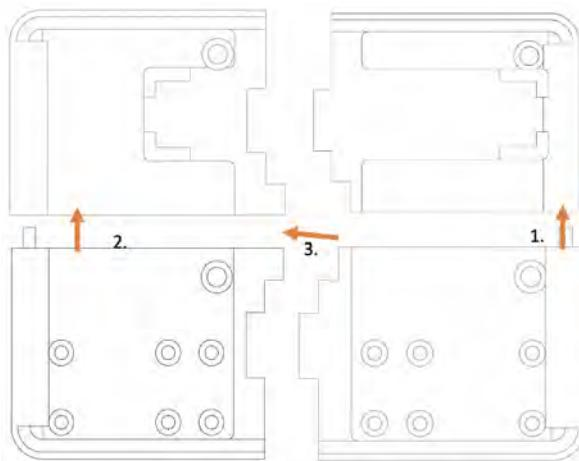

Fig. 40 (Base assembly)
- Assemble Base- Print of files named (BasePlate BL, BasePlate BR, BasePlate FL, BasePlate FR) using either PLA or ABS filament. The Front Right side will glue to the Back Right Side. The Front Left side will glue to the Back Left side, (Fig. 40) shows the appropriate assembly steps. Apply glue in the seam in between the Right and Left assemblies. Make sure to prep the surface with tinfoil in order to not glue the assembly to the gluing surface.